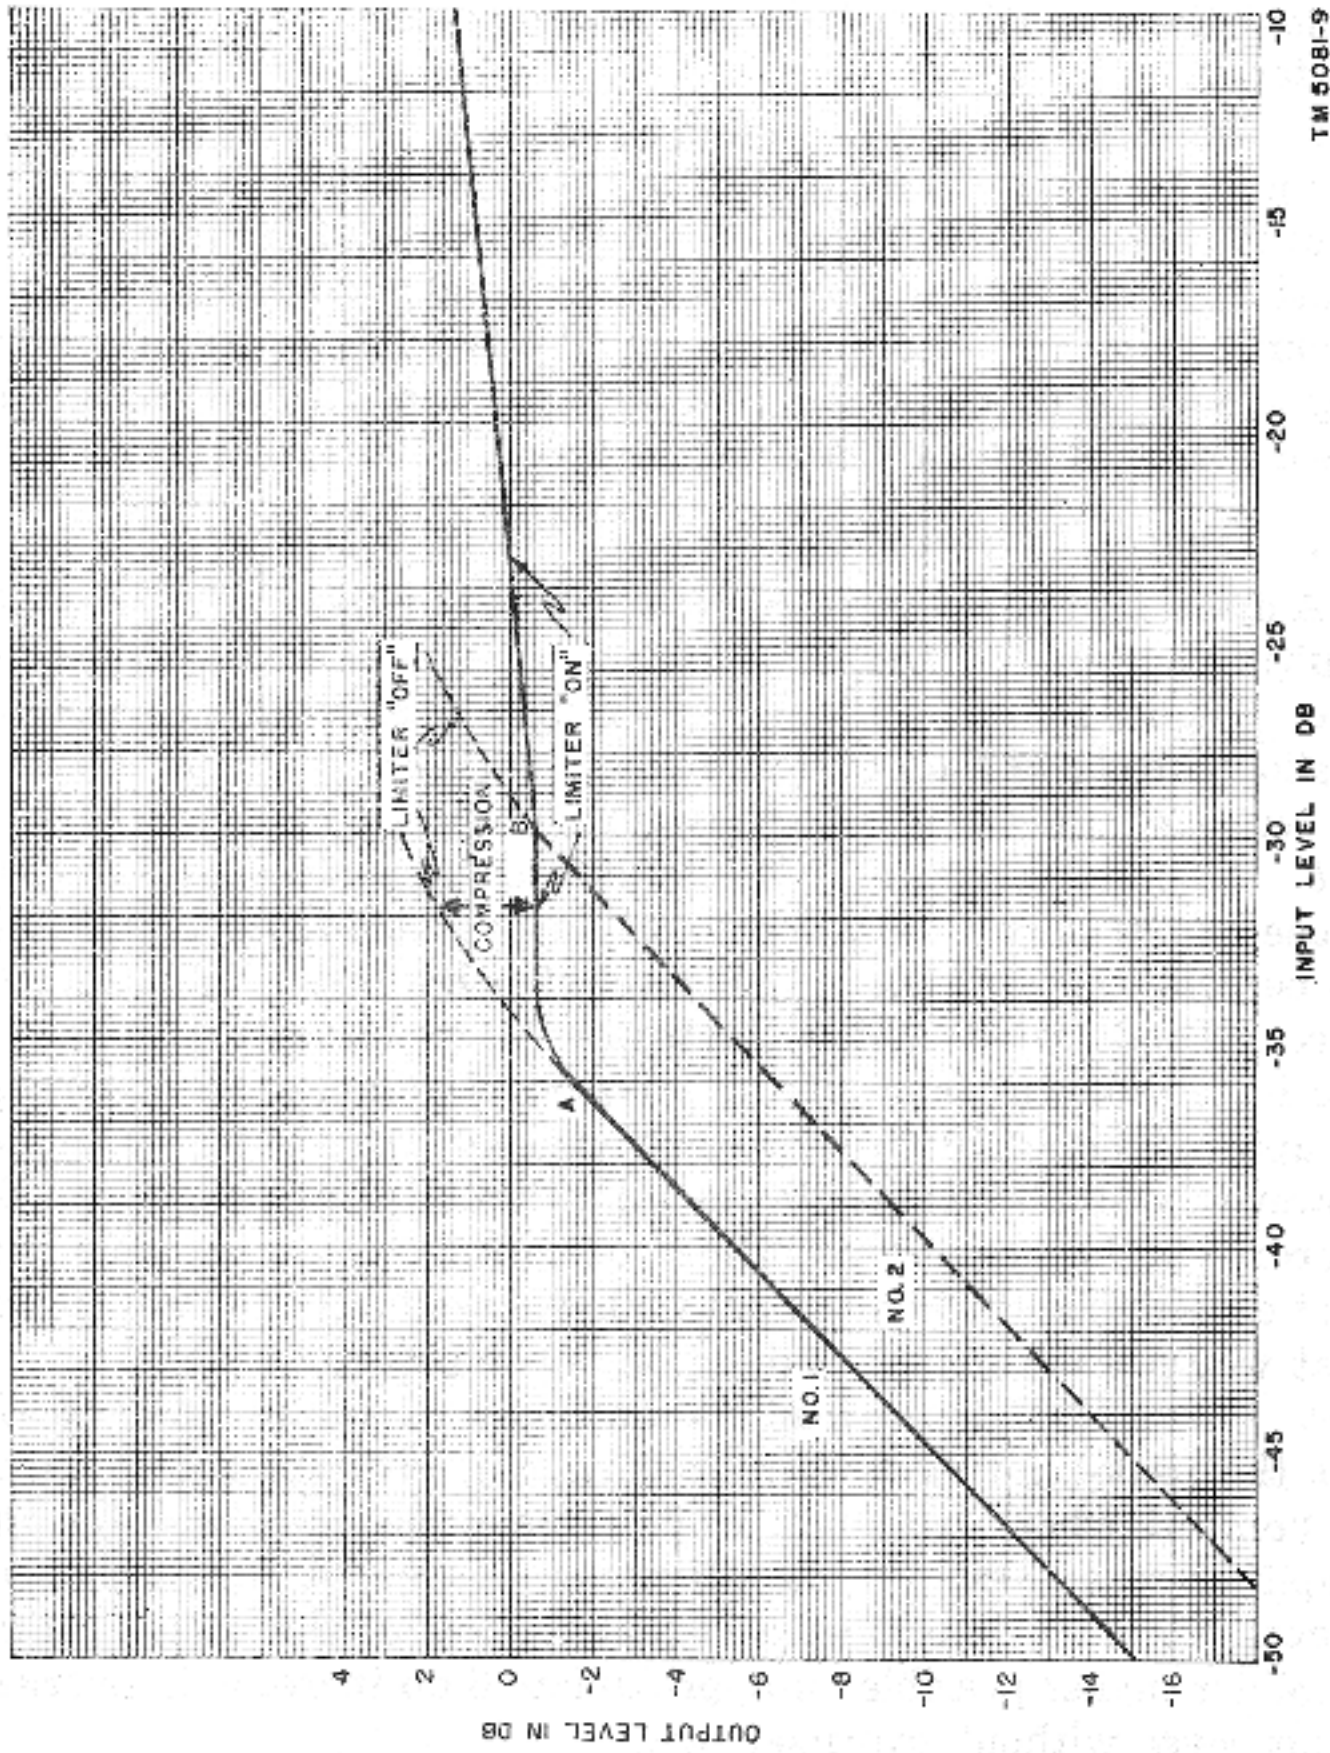

Figure 9. Pre-limiting amplifier, typical gain characteristic.
a. The load characteristic for a typical peak-limiting amplifier is shown in curve No. 1 of figure 9. The measure of the power ratio in decibels is referred to 6 milliwatts (mw).